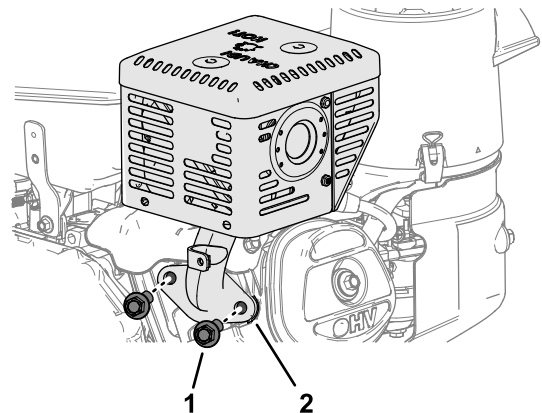

Figure 83
- Remove the 2 flange bolts that secure the muffler to the exhaust-outlet flange of the engine, and remove the muffler (Figure 83).
6. Align the muffler and a new exhaust gasket to the exhaust-outlet flange of the engine (Figure 83).